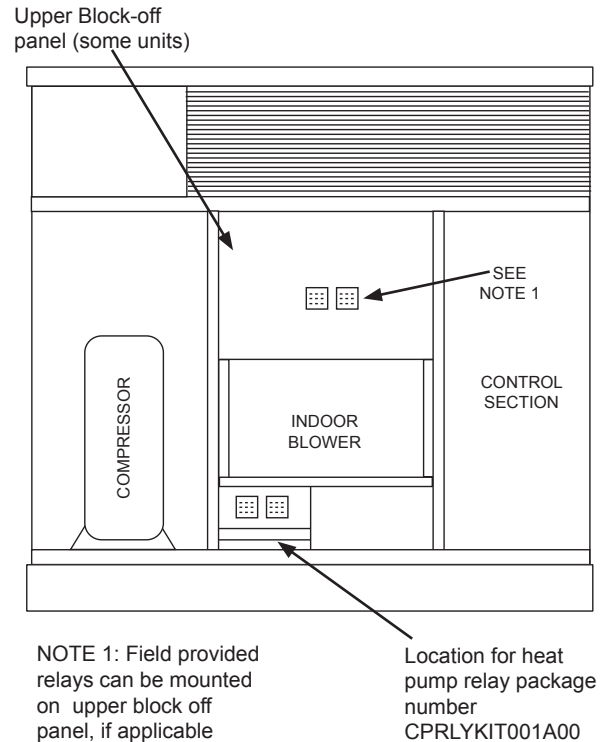

Fig. 11 - Relay Package Location
7. Remove the panel on the HVAC unit covering the indoor blower. See Fig. 11. The (provided) Supply Air Temperature (SAT) sensor, which looks like an eyelet terminal, must be installed in the blower section. Attach the (2) pink wires from the economizer harness (or extension harness) to the SAT.
A. If the optional relay kit CPRLYKIT001A00 is used, it will mount underneath the indoor blower as shown in Fig. 11 & 12. Follow instructions sent with the package.
B. If relays are field provided and installed, they can be mounted above the upper block off panel, as shown in Fig. 11. Use caution to ensure screws do not interfere with blower operation, Blunt end screws are recommended.
C. If no upper block off panel is present mount relays on compressor partition below indoor blower on left as shown in Fig. 11.